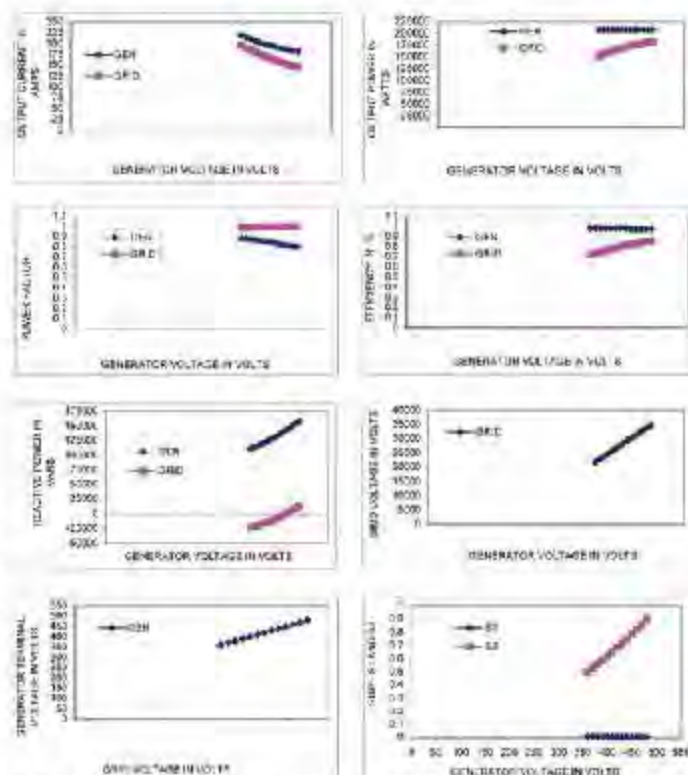

Fig. 5: 225 KW Grid Connected Winding Generator at Variable Generator Voltage at Constant Input Wind Power and Frequency
- Variation of the dependant parameters with change in grid (generator) voltage keeping the input wind power and grid frequency constant. The following behavior is observed and plotted with rise in voltage as shown in Fig. 5 & 6. The Output current, Real power output, Reactive power input and Efficiency increases & Power factor & Slip decreases